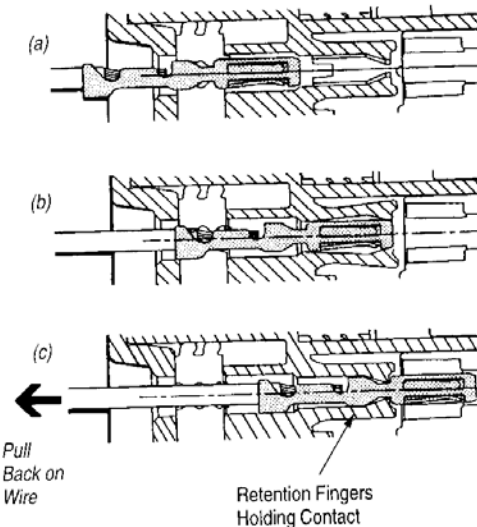

Figure 2
1. To insert a contact, push it straight into the appropriate circuit cavity as far as it will go (see Figure 2).
2. Pull back on the contact wire with a force of about 4 to 9 Newtons [1 or 2 pounds] to be sure the retention fingers are holding the contact (see Figure 2).